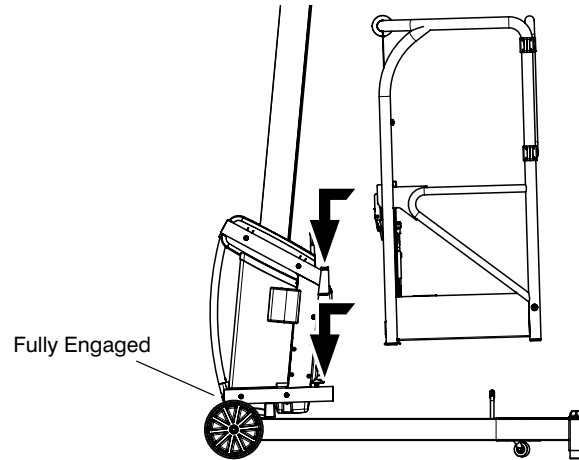

Figure 3-9. Attaching the platform to the carriage
6. Attach the platform to the carriage (see Figure 3-9.).
- Make sure the platform's mounting pins are aligned with the holes in the carriage (A), then drop slowly down to seat properly.